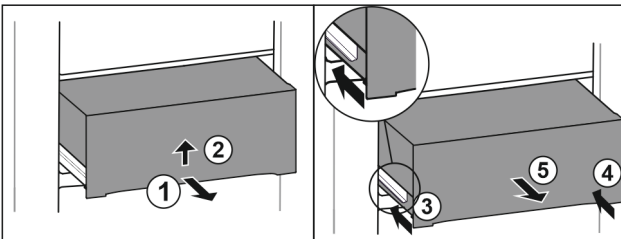

Fig. 40
- ▶ Pull out the drawer halfway. Fig. 40 (1)
- ▶ Lift the drawer from the bottom. Fig. 40 (2)
- ▶ Slide in left rail. Fig. 40 (3)
- ▶ Slide in right rail. Fig. 40 (4)
- ▶ Remove drawer to the front. Fig. 40 (5)